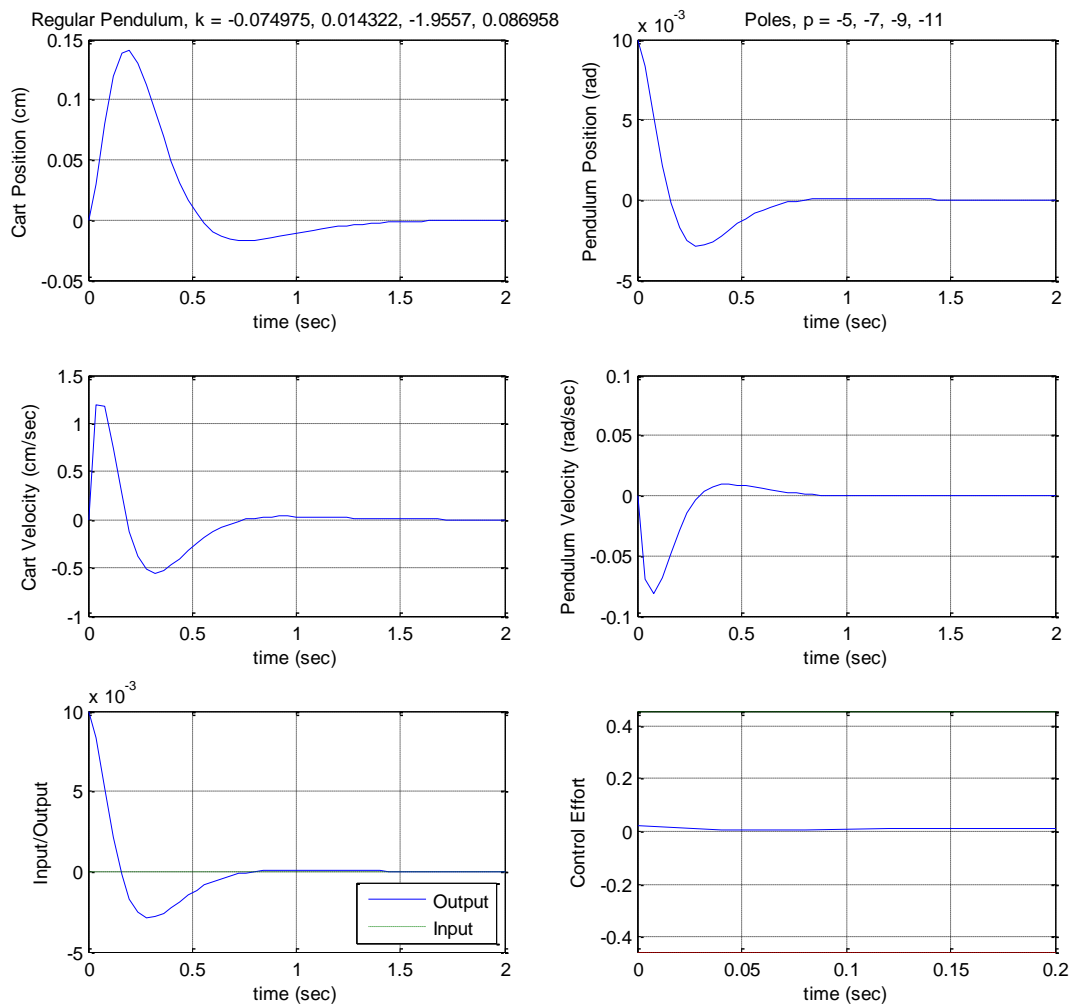

Figure 5: Regular Pendulum State Variable Feedback Design Simulation Results
- Use state variable feedback so that the first cart moves to keep the pendulum pointing down (the pendulum angle is zero degrees) with a settling time of less than 1.0 seconds. Use the direct pole placement method to determine the feedback gain values. You also need to be sure the control effort is less than 0.4 and the cart does not move more than about 2.5 cm. You can use your prelab design as a good starting point for the pole placement. You can also try to place the poles at -5, -7, -9, -11. Try to make sure that the first two gains are less than 0.2 if possible. See Figure 5 for an example of an acceptable design from the simulation.